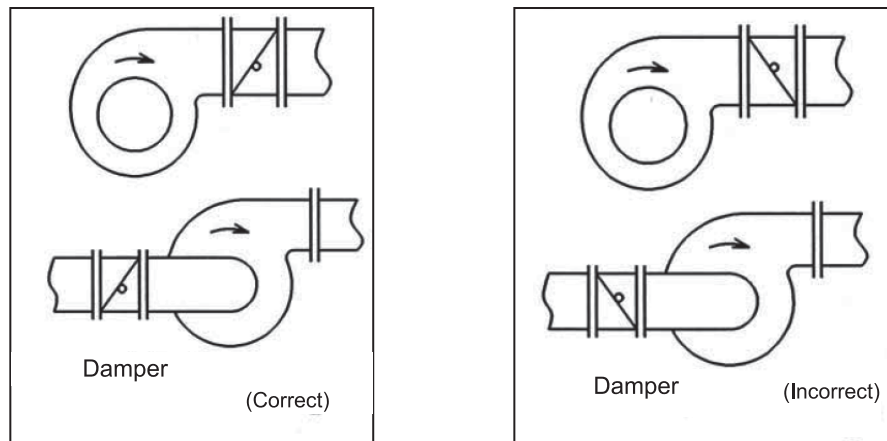

Figure 19 – Installation direction of the damper
- (1) Referring to the dimensional outline drawing that is submitted separately, install the damper in place. At that time, pay attention to the rotation direction of the fan's impeller (see Figure 19).
- (2) If the damper is of an electric or air cylinder type, carefully read the instruction manual of the actuator before use.